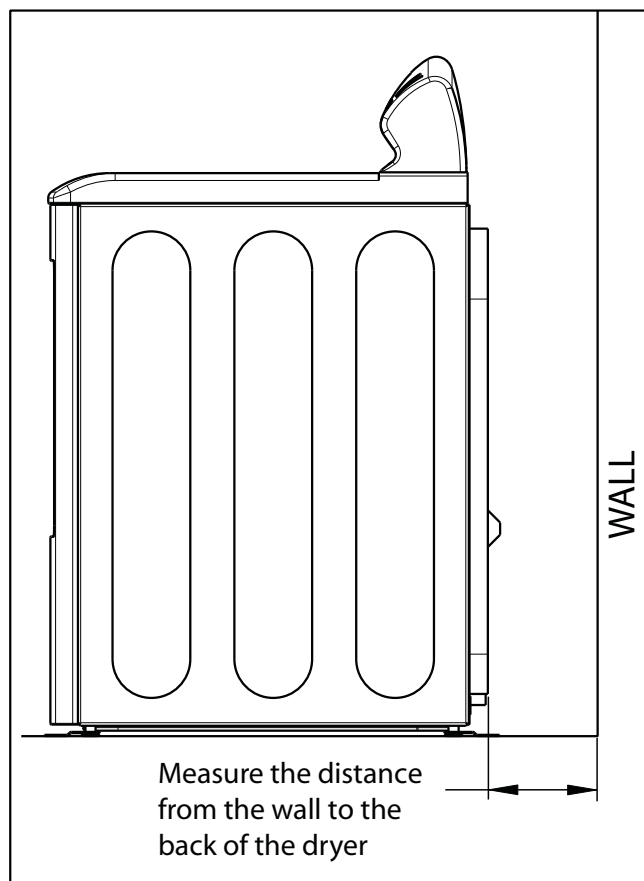

Figure 1
4. Measure the distance from the back of the dryer to the wall as shown in Figure 1. Measure and mark the centerline of the dryer as well. Note that the exhaust duct connection to the dryer is located on the dryer centerline.